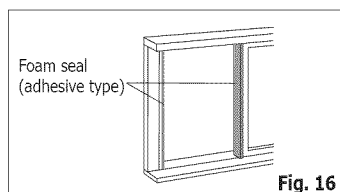

Fig. 16
1. Cut the foam seals(adhesive type) to the proper lengths and attach them to the window frame. See Fig.16.